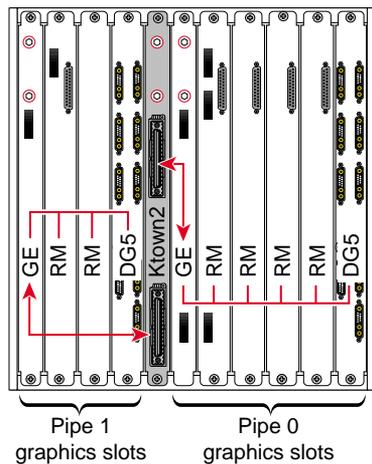

Figure 2-3 InfiniteReality Graphics Pipe Board Locations in G-brick
- **11 board slots.** These slots are used to install and replace a Ktown2 board and two InfiniteReality graphics pipes (sets of boards) in your graphics system. As you face the rear panel, the boards, as shown in Figure 2-3, are located as follows:
- **Six rightmost slots (pipe 0).** These slots support a Geometry Engine (GE) board; one, two, or four Raster Manager (RM) board assemblies; and a Display Generator (DG) board.